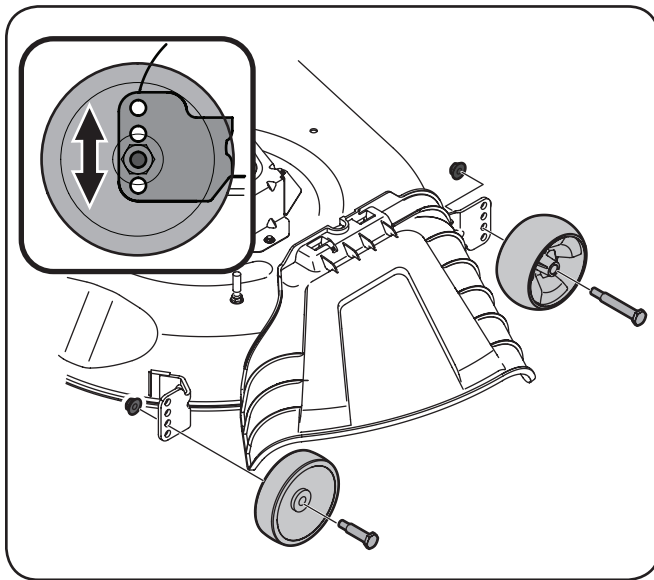

Figure 3-12
- b. Remove the front and deck wheels by removing the flange lock nuts and shoulder bolts that secure them to the deck. See Figure 3-12.